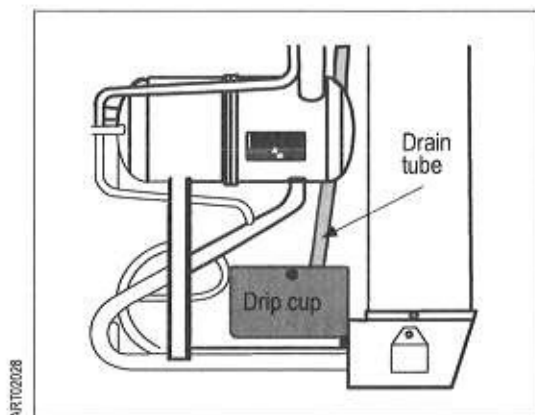

Figure 3. Drain Tube and Drip Cup
- If a large amount of ice is present, remove the drain tube from the drip cup and place it in a bucket. Refer to Figure 3.